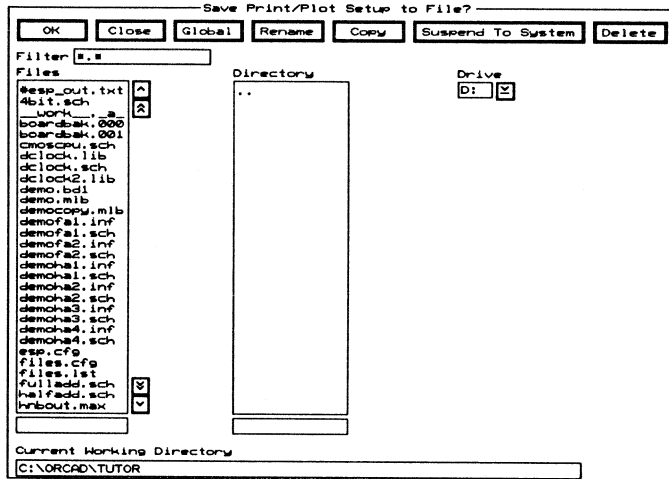

Figure 9-8. The **Save Print/Plot Setup to File** dialog box.
1. With the three pages listed in the **Pages** list box, select **Save**. The **Save Print/Plot Setup to File** dialog box displays (figure 9-8).